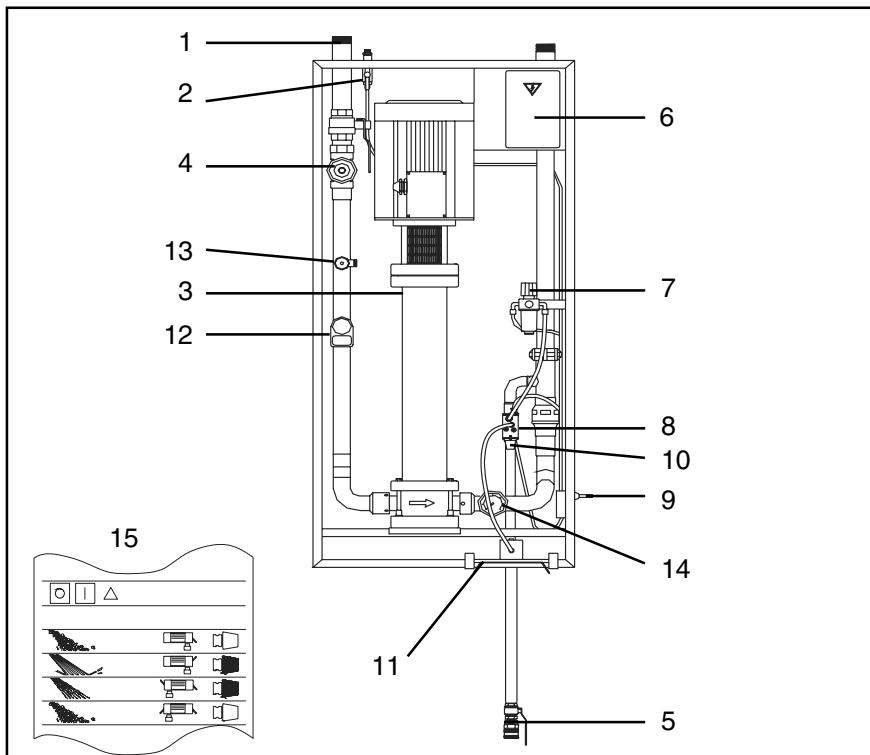

Fig. 4
**S4000, S4000 U, S4100, S4100 U,** (fig. 4, User Pack).